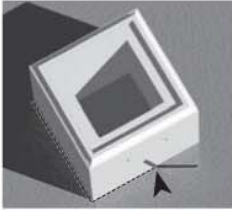

FIGURE 1A
A) Temporarily position NEWEL POST BOTTOM SECTIONS and mark layout lines on floor surface (FIG. 1A). This positioning is important in order to get accurate measurements between the NEWEL POST BOTTOM SECTIONS.